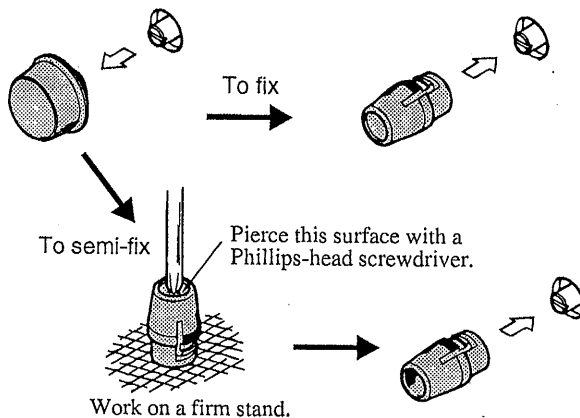

Fig. 2-9 Mounting the guard cap
- ① Check that the OUTPUT switch is turned off.
- ② Turn on the POWER switch.
- ③ While pressing the LIMIT switch, preset the output level (voltage and/or current) to a desired value. Here, a rough presetting is acceptable.
- ④ Pull out the VOLTAGE and/or CURRENT control (knob) without turning it.
- ⑤ While pressing the LIMIT switch, use a flat-head screwdriver, and preset the output to a desired value.
- ⑥ Push in the guard cap, instead of the removed knob.
- ⑥ As shown in Fig. 2-9, pierce the guard cap top with a Phillips-head screwdriver.
- ⑦ Push in the guard cap, instead of the removed knob. Since the guard cap is pierced, the output level may be readjusted using a flat-head screwdriver.